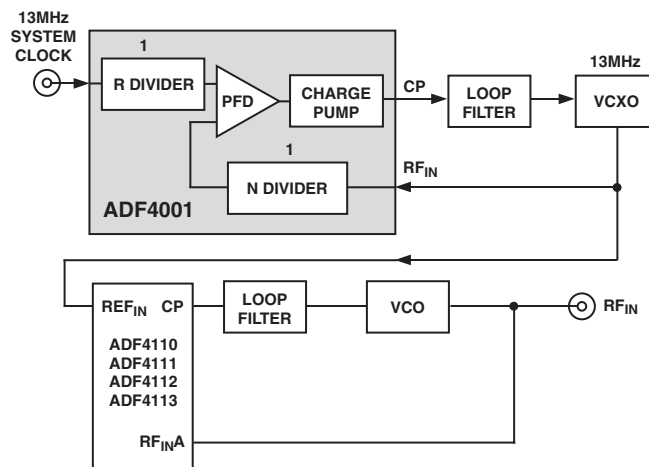

Figure 7. Low Jitter, Stable Clock Source for GSM Base Station Local Oscillator cct
Figure 7 shows the ADF4001 being used with a VCXO to produce an extremely stable, low jitter reference clock for a GSM base station Local Oscillator (LO).